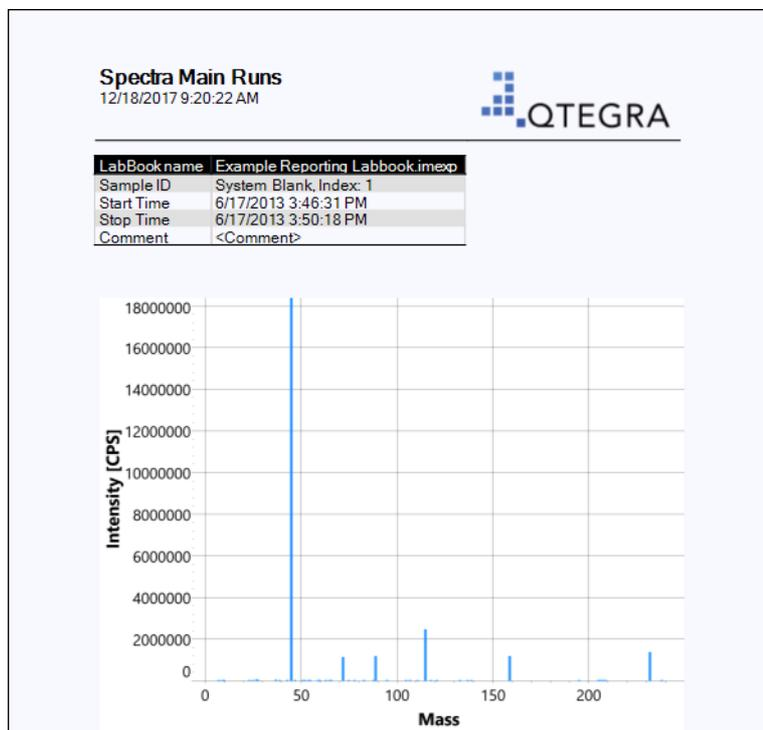

Figure 8-57. Resulting output from an example 'Spectra Main Runs' Report
- The examples in Figure 8-56 and Figure 8-57 show the definition and resulting display from the supplied 'Spectra Main Runs' Report Template.